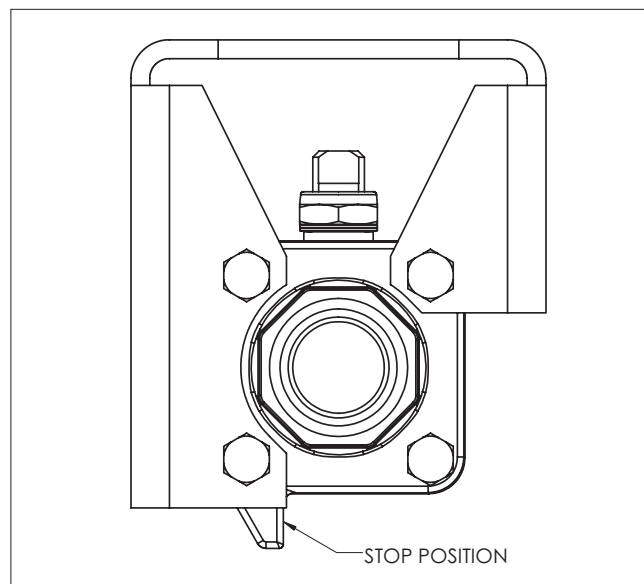
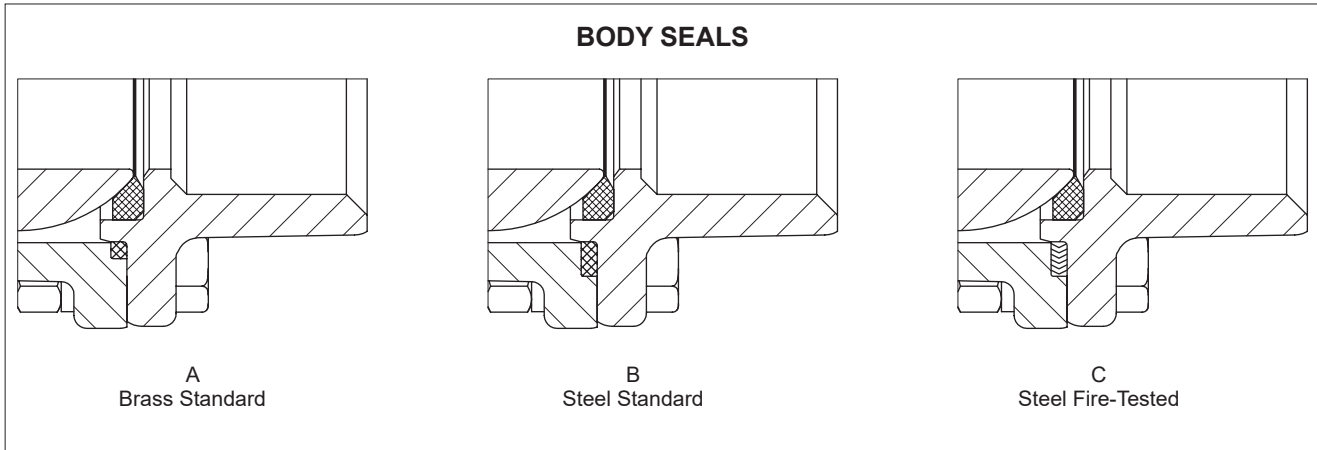

Figure 6. Stop Position for Actuated Valve
Figure 8.
2. Check the stem (4) and ball (3) for damage. Pay particular attention to the sealing areas.
3. Check all sealing and gasket surfaces of the body (1) and body cap (2).
- c. From **Figure 6**, the ballooned part number, part name and quantity required.
8. Insert the second seat (5) in the body cap (2) so that the sealing surface of the seat is towards the ball (**see detailed diagram in Figure 6**).
9. Assemble the body cap (2) to the body (1). Insert the four body bolts (52). The bolt heads should be on the body cap.
**NOTE:** The handle stop is part of the body cap (2). When assembling the valve, be sure the handle stop that projects from the body cap is in the upper right corner as the body cap faces you (see **Figure 6**).
10. Place the four lock washers (55) over the body bolts (52). Thread on the four hex nuts (53) and tighten until snug.
**NOTE:** A449 carbon steel body bolts (bolting code "0") do not use lock washers (55).
11. Assure that the body and body cap are properly aligned. Tighten the body bolts alternately in a diagonal pattern in 2 lb.-ft. increments until achieving torque values in the Recommended Torques for Body Bolt Table in **Figure 6**.
12. Place the handle (17), lockwasher (19) and stem nut (16) over the stem (4). Tighten the stem nut (16) until snug.
9. Assemble the body cap (2) to the body (1).
**NOTE:** The handle stop is part of the body cap (2). When assembling the valve for actuation, be sure the handle stop that projects from the body cap is in the bottom left corner as the body cap faces you (see **Figure 8**).
11. Insert the four body bolts (52). The bolt heads should be on the actuator bracket. Place the four lock washers (55) over the body bolts (52). Thread on the four hex nuts (53) and tighten until snug.
12. Assure that the body and body cap are properly aligned. Tighten the body bolts alternately in a diagonal pattern in 2 lb.-ft. increments until achieving torque values in the Recommended Torques for Body Bolt Table in **Figure 6**.
- c. From **Figure 6**, the ballooned part number, part name and quantity required